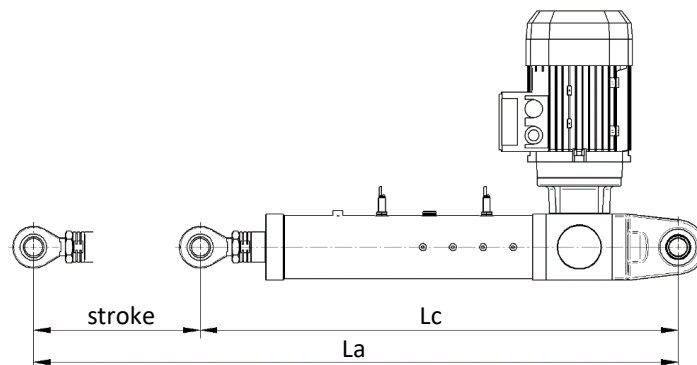

Figure 6.6 – “Lc” and “La” dimensions
- The positions of the two limit switches are the extreme travel positions Lc and La (see Fig. 6.6).
- Check if the extreme dimensions of the actuator “Lc” and “La” (see Fig. 6.6) are compatible with extreme positions of the plant component that has to be moved.
- Lc-La dimensions are indicated in Fig. 6.6 and can be reached with the stroke end limit switches (see Section 6.2).